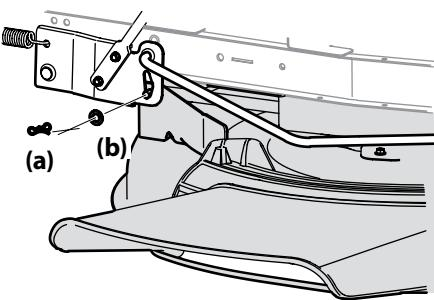

Figure 4-6
3. Remove the bow-tie cotter pin (a) and flat washer (b) from the deck lift assembly, and retain for reinstallation later. See Figure 4-6.